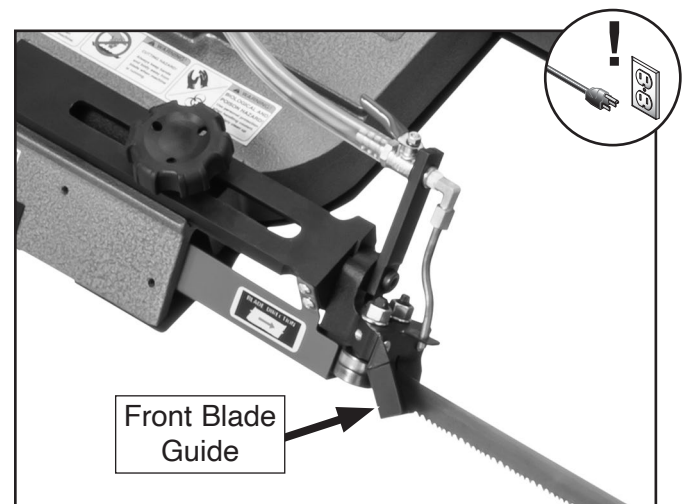

Figure 36. Location of front blade guide.
3. Move front blade guide (see **Figure 36**) as far right (when facing the front of the machine) as it will go (see **Adjusting Blade Guide Positions** on **Page 33**), then clean out all chips and shavings caught inside blade guide with brush or shop vacuum.